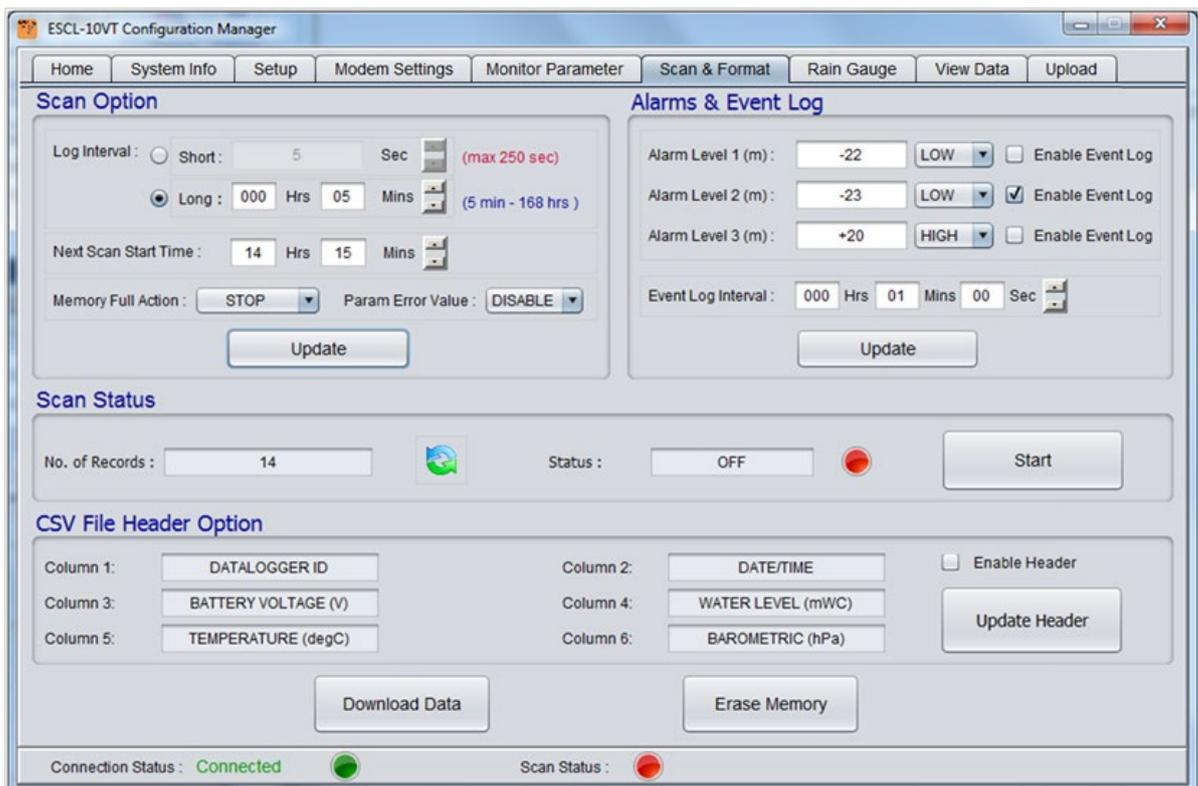

Figure 9-19: EWLR-101 Configuration manager – Scan & Format
- 9.7.7 'Modem Settings' tab: In case FTP data upload is required click on 'Modem Settings'. Refer to figure 9-19.